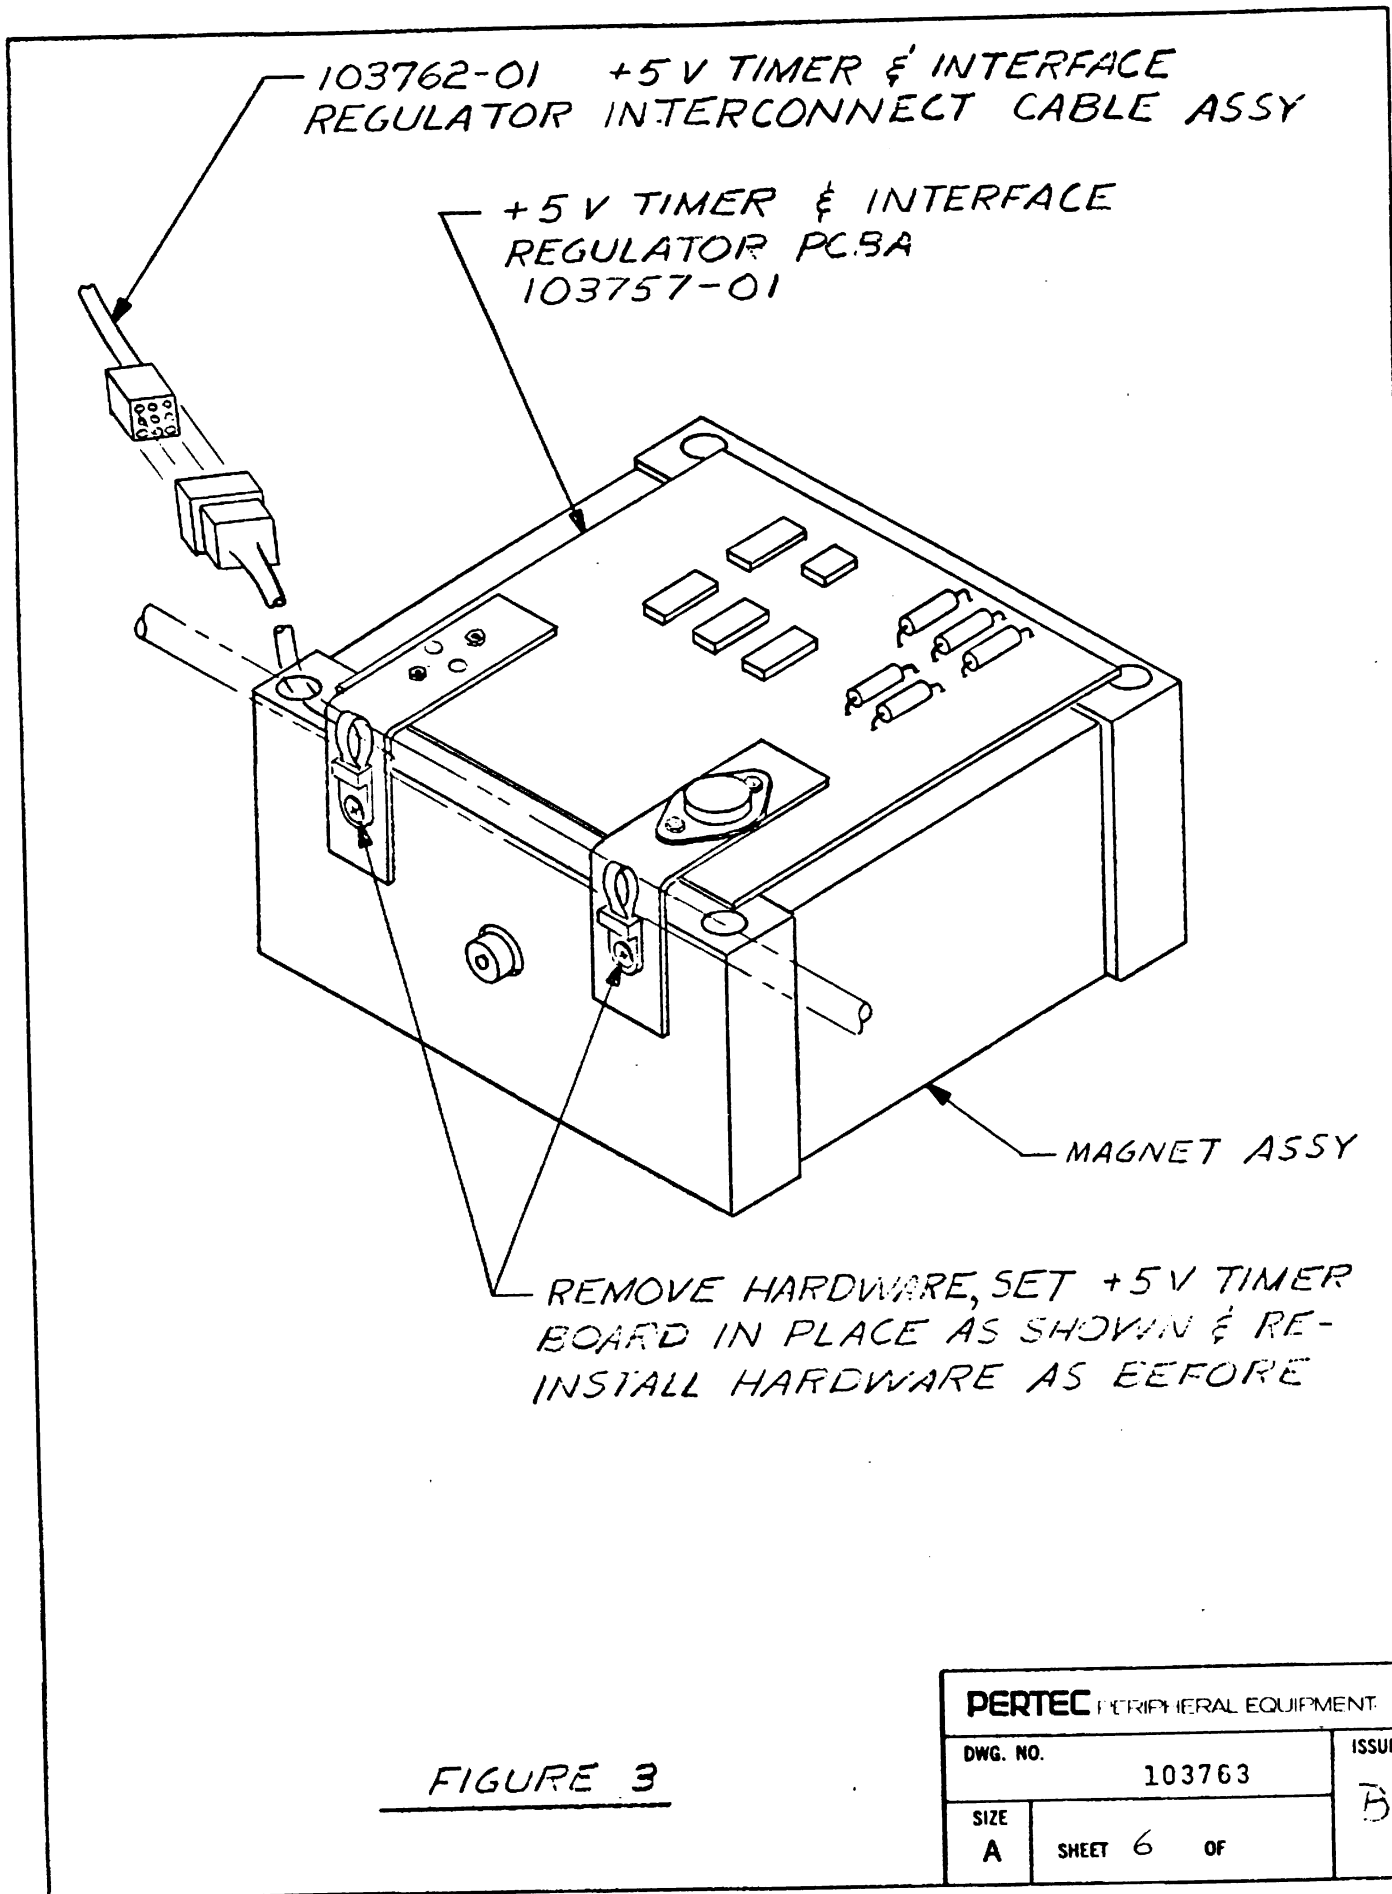

FIGURE 3
6.1 Mount the 103757 PCBA on the Positioner Assembly as shown in Figure 3.